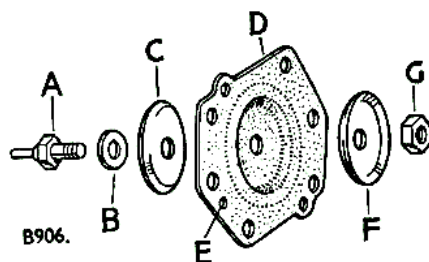

Fig. M-6—
5. Fit the pump shaft to the new membrane so that the small hole for the air duct tube (E) is on the left of the securing nut (G) (Fig. M-6). Care must be taken not to twist the membrane when tightening the securing nut. Secure the nut by staking.